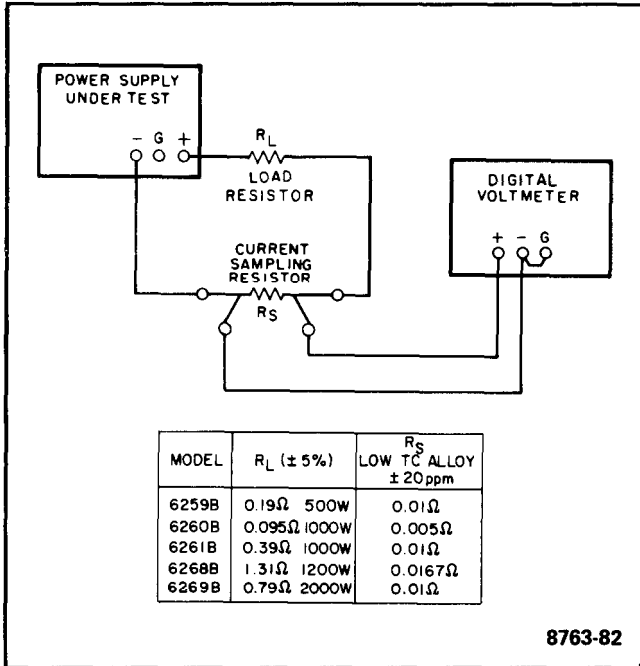

Figure 5-7 Constant-Current Load Regulation test Setup
- a. Connect test setup shown in Figure 5-7.